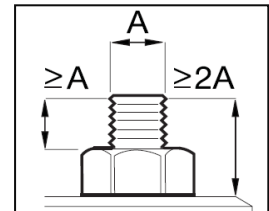

Figure 2
- Never leave a pressurized system unattended. If you must leave the area, please stop the pump, fully release the pressure and ensure that hydraulic pressure gauge indicates zero (0) psi/bar.
- The total protruding length of the stud (from joint surface to end of stud) must be at least twice the length of the exposed portion of the stud (see figure 2). Do not operate the pump before the connection is not completed. Never attempt to disconnect a hydraulic coupler while it is under pressure.
- 4.1 Position the socket over the nut. Ensure that the socket fits over the nut without force (see A). The total protruding length of the stud (from joint surface to end of stud) must be at least twice the length of the exposed portion of the stud (see figure 2). For round nut, do not need the socket.